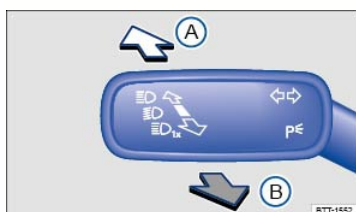

Fig. 81 To the left of the steering wheel: Turn signal and high beam lever.
- Move the turn signal and high beam lever from the center position to the following position ⇒ Fig. 81: